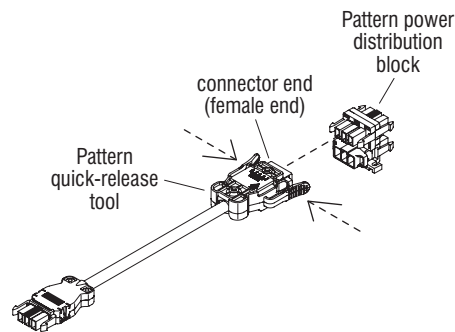

Figure 2
2. The two Pattern quick-release tool tabs will align with the tabs of the Pattern power distribution block prongs. Squeeze the two Pattern quick release tool tabs together to push the two Pattern power distribution block tabs together, then pull the connector end out of the distribution block. Remove the quick-release tool from the connector end (Figure 2 & Details A & B).